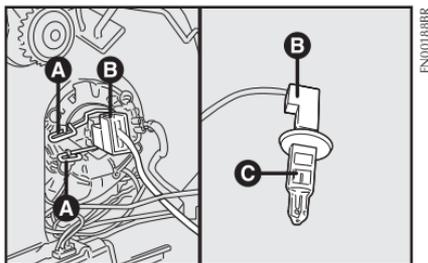

fig. 23
- 2) Desengatar a mola **A-fig. 23**, retirar o conector **B** e remover a lâmpada **C**.